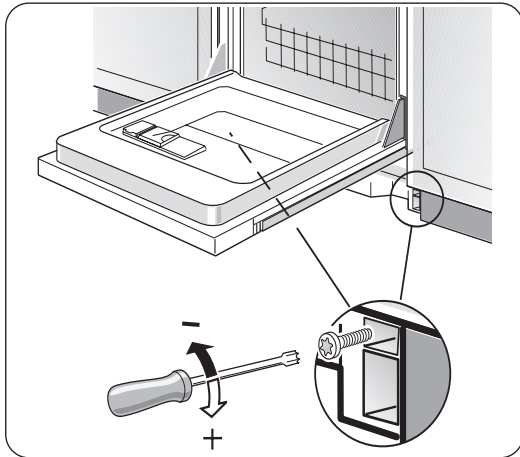

Figure 27
2. Insert the screws as shown in Figure 27. Turning the screw clockwise increases the spring tension. Turning the screws counter-clockwise decreases the spring tension.